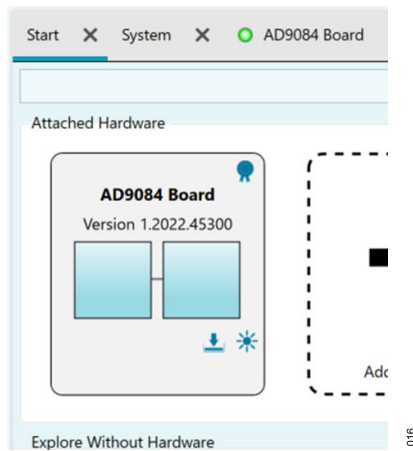
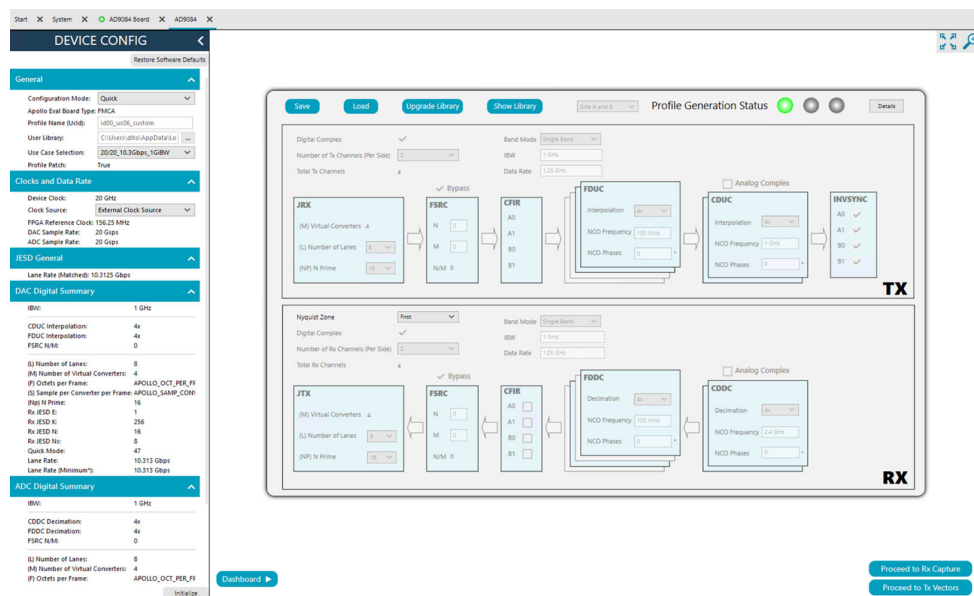

Figure 16. Opening AD9084 Board Plug-in in the ACE Software
Figure 19. AD9084 Configuration and Profile Generation Window
- a. The device clock frequency and FPGA reference clock frequency are use case specific and are specified in the **ACE DEVICE CONFIG** window (see Figure 19). Frequencies can be adjusted after a use case is selected.
6. After several seconds, possibly 10 seconds or so, the RPC server completes initialization, and the plug-in appears in the **Attached Hardware** section within the **ACE Software**. Open the **AD9084 Board** plug-in from within the **Attached Hardware** section (see Figure 16).
- Double-click on the **AD9084 Board** plug-in icon in Figure 16 opens the **AD9084 Configuration and Profile Generation** window in the **ACE Software** (see Figure 19).
8. In **Quick** mode, the only parameter that can be selected and/or changed in the block diagram view in Figure 19 is the **ADC Nyquist Zone (First or Second)** pull-down menu. This choice informs the **DEVICE CONFIG Profile Generator** regarding which Nyquist zone the signals for the target application reside in.